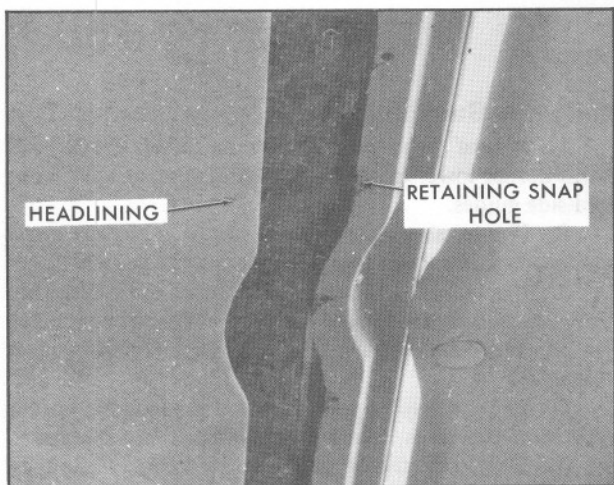

Fig. 15-22 Headlining Panel Removal
2. Unsnap forward portion of headlining panel by gently prying downward. Fig. 15-22.